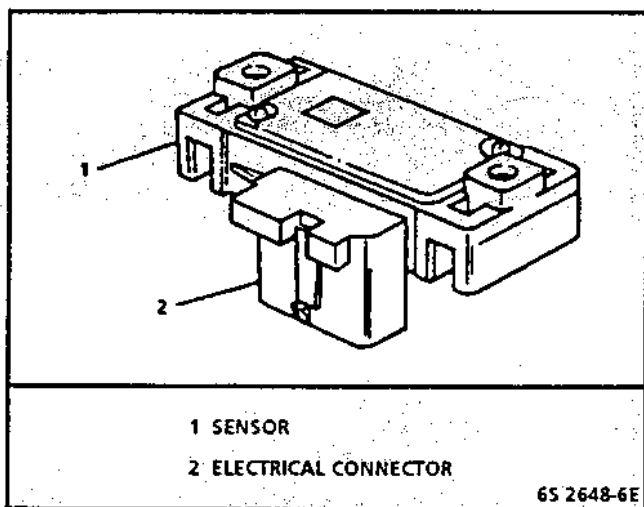

Figure 1.1-8 - Manifold Absolute Pressure Sensor
**Figures 1.1-8 and 1.1-9**
The manifold absolute pressure sensor (Figure 1.1-8 and 1.1-9), is a pressure transducer that measures the changes in the intake manifold pressure. A small hose connecting the sensor to the intake manifold (or throttle body) allows the sensor to measure the absolute pressure inside the manifold. The pressure changes as a result of engine load and speed change, and the manifold absolute pressure sensor converts this to a voltage output signal.